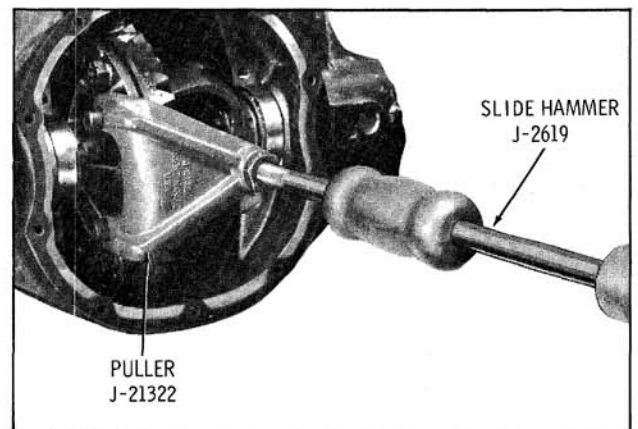

Fig. 10-16 Removing Case Assembly
3. Remove two ring gear retaining bolts from differential case and install Ring Gear and Case Remover J-21322 with slide hammer as shown in Fig. 10-16. Remove the case assembly and place right and left bearing outer races and shims in sets with marked bearing caps so that they can be reinstalled in their original positions.